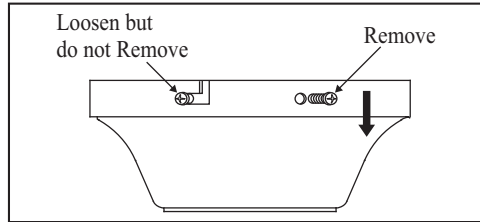

Figure 6
2. Remove the mounting bracket from the canopy by loosening the four screws on the top of the canopy. Remove the two non-slotted screws and loosen the slotted screws. (Figure. 6)
2. Remove the mounting bracket from the canopy by loosening the four screws on the top of the canopy. Remove the two non-slotted screws and loosen the slotted screws. (Figure 6)